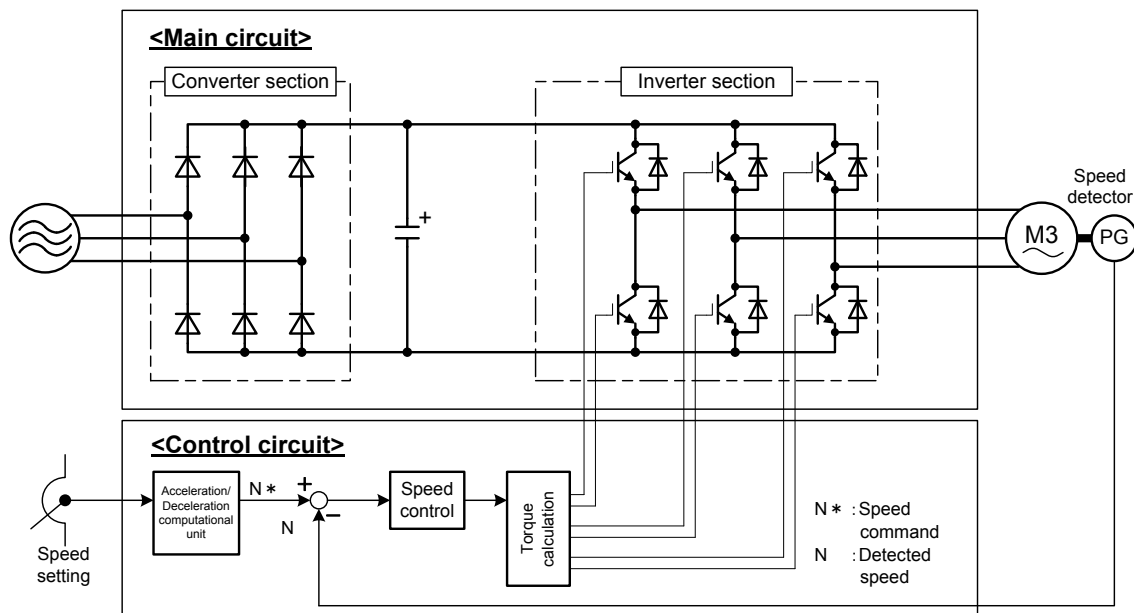

Figure 1.3.1-5: Basic configuration of closed-loop speed control
Figure 1.3.1-5 shows the basic configuration of closed-loop speed control. Speed information is fed back from a speed detection sensor, such as a pulse generator (PG), compared with the speed command, and the output frequency of the inverter is controlled so that the speed command and the detected speed value will match.